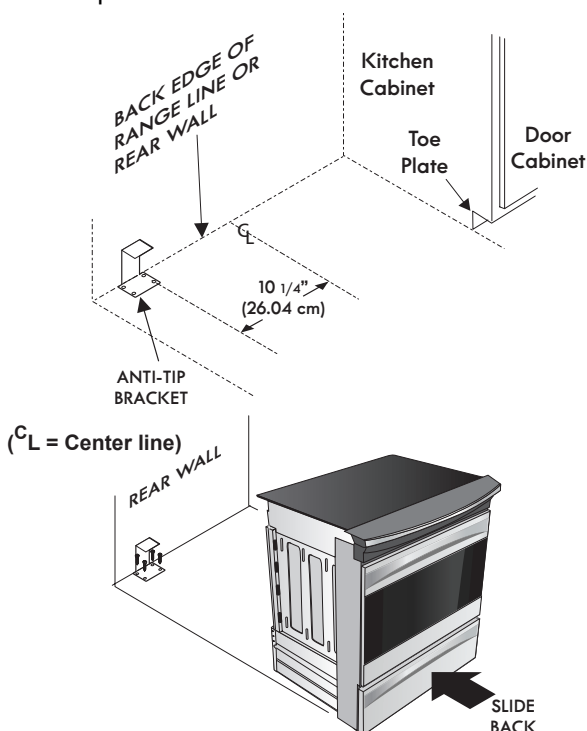

Figure 12
1. Draw a center line (CL) on the floor where the range should be installed. Also draw a line on the floor at the range back position if there is no wall.
2. Unfold paper template and place it flat on the floor with the right rear corner positioned exactly on the intersection of the center and back lines you just drew before (Use the diagram below to locate brackets if template is not available (Figure 12)).